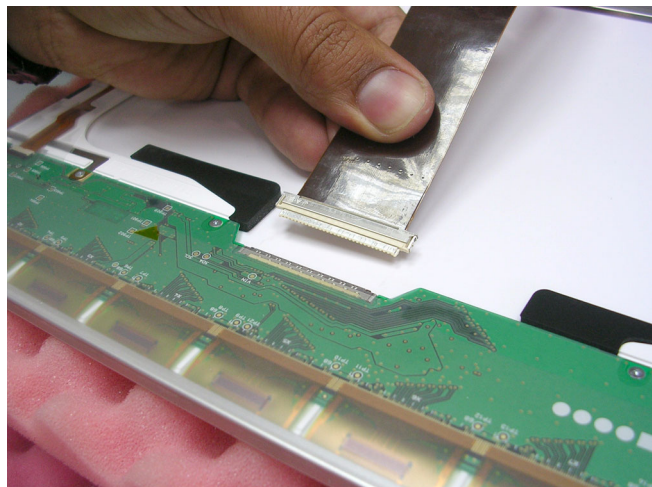

Figure 8-77 Connecting the Flex Cable to the LCD Rear Panel
- 2) Connect the new flex cable to LCD rear panel connector, as shown in Figure 8-77.